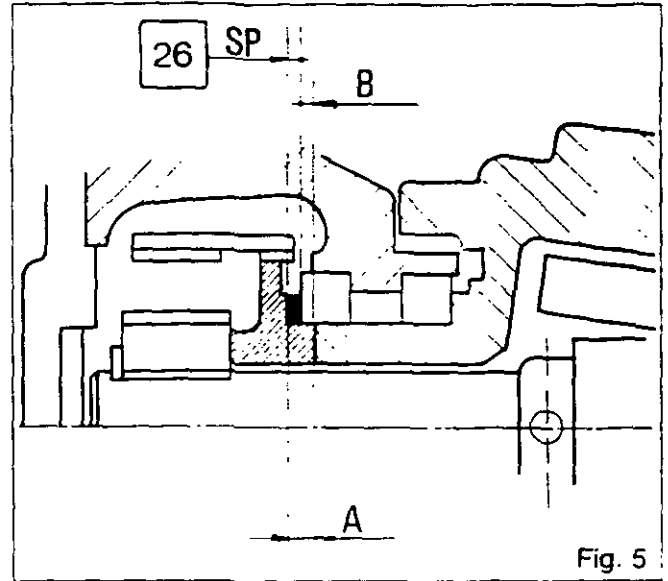

Fig. 5
- 39. Determine the thickness "SP" of the shims [26] (Fig. 5) to obtain the preload P2 using the formula : **SP = (A-B) + 0.05 mm**